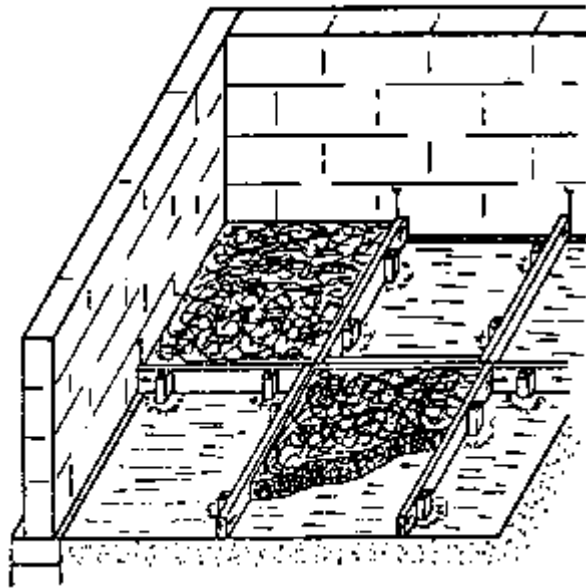

Fig. 1
i. Pour the concrete for the base layer of one bay, making sure that it is well distributed near the walls and corners especially. Mix proportions can be found in the Tables of Figures, Reference Book, page 234 (Fig. 1).